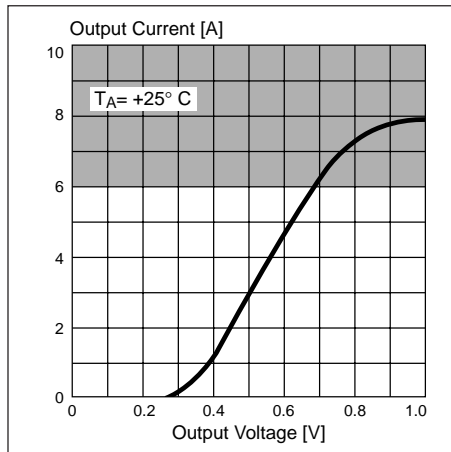

Figure 7. Typical I_0 vs. $V_{0CE\text{ Sat}}$ "Zero output" saturation.
- Figure 7 shows the relationship between C_T , R_T , and t_{on} . Care must be taken to keep the t_{on} time short, otherwise the current in the winding will rise to a value many times the rated current, causing an overheated IC or motor.